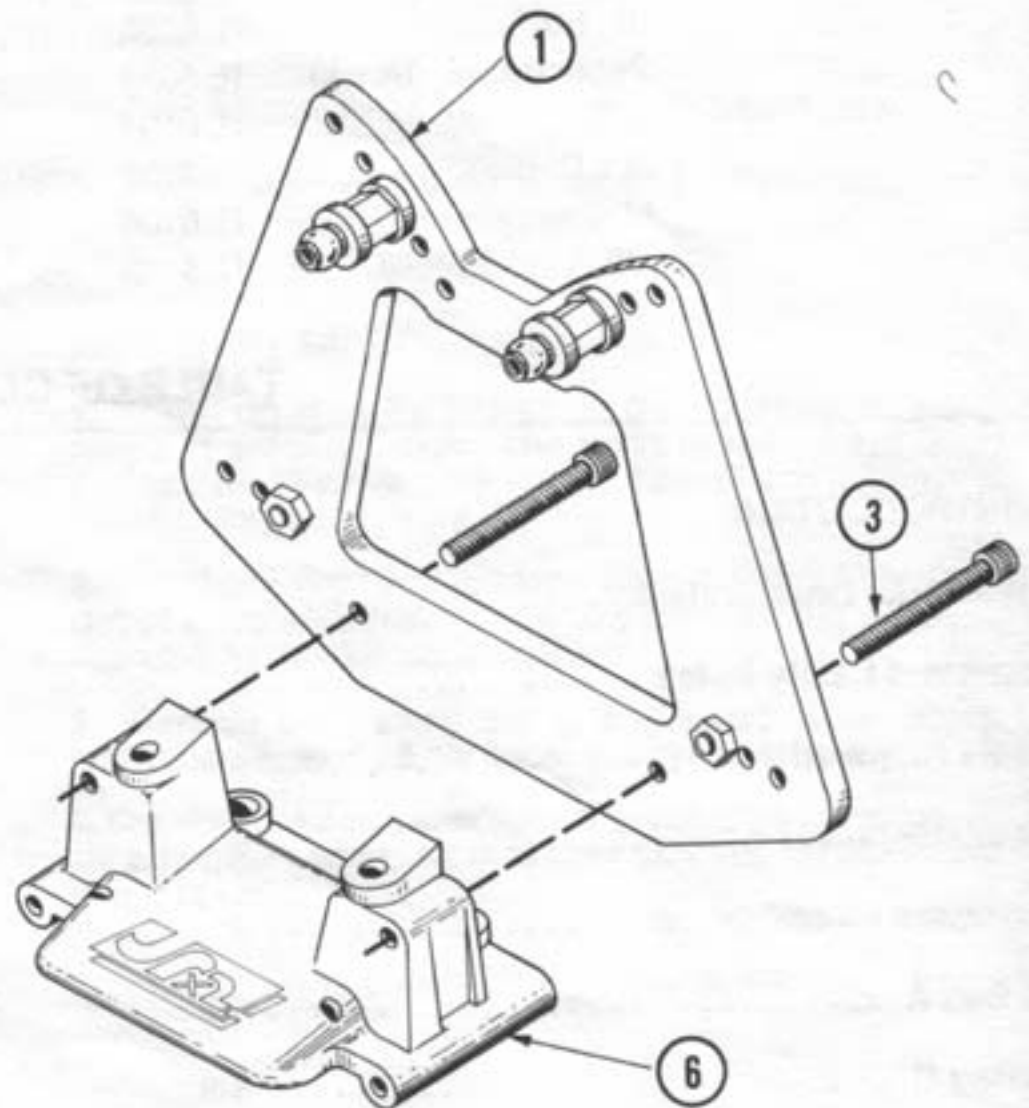

Figure 2
3. Secure the front shock tower (1) to the front bulkhead (6) as shown using two 4-40 x 7/8" cap head screws (3). Fig.2